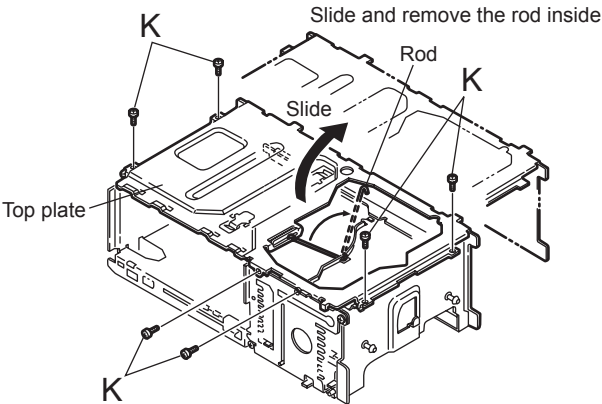

Fig.6
**(See Fig.6 and 7)**
- (1) Remove the nine screws **K** securing the top plate.
- (2) Disconnect the section **e** attached to the rear of the unit, then lift the top plate slightly.
- (3) Slide the top plate toward the rear of the unit to remove the upper rod from the top plate.